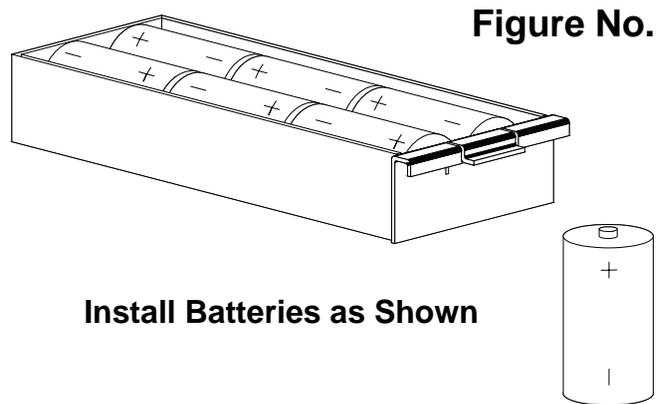

Figure No. 3
To remove the battery drawer, press down on the release pad while pulling outward. Remove the battery drawer from the instrument. Install six (6) "D" size batteries in the drawer making certain that they are positioned in accordance with the battery outline located in the bottom of the drawer. **Note:** All six (6) batteries must be of the same type. They must all be Alkaline or they must all be Ni-Cad. **DO NOT** mix Alkaline and Ni-Cad batteries. Refer to Figure no. 3 for illustration of battery installation.